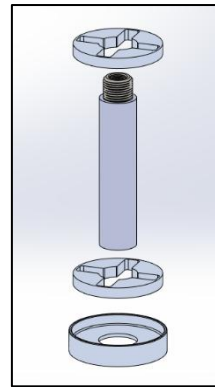

FIG.4 ACOUSTIC HOLDER
3. ACOUSTIC HOLDER ASSMEBLY (shown in FIG. 4)